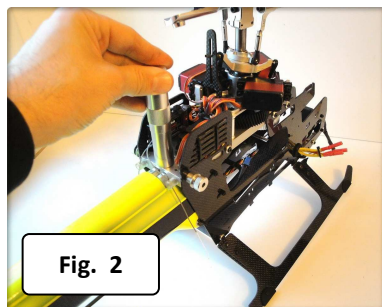

Fig. 2
- Check that the tail output shaft is perpendicular to the tube. (figure 2)